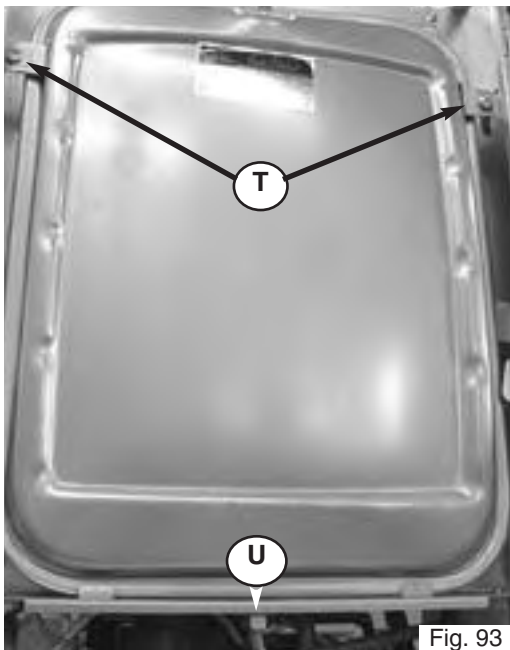

Fig. 93
4. Remove the two screws **T** (see Fig. 93);